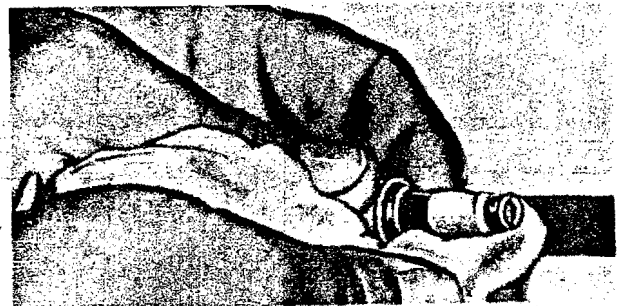

Figure 7-29. Compound to Connector
j. If desired, apply a light film of insulating compound (Specification MIL-I-8660) to the connector by means of a clean cloth [Figure 7-29].